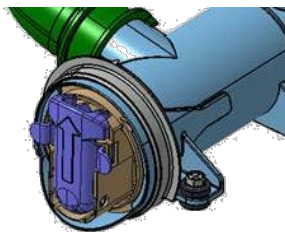

Fig. 1
- ↪ For machines manufactured with the new filter dial: open the flap at the bottom of the front panel. The filter knob is as shown in fig. 1.